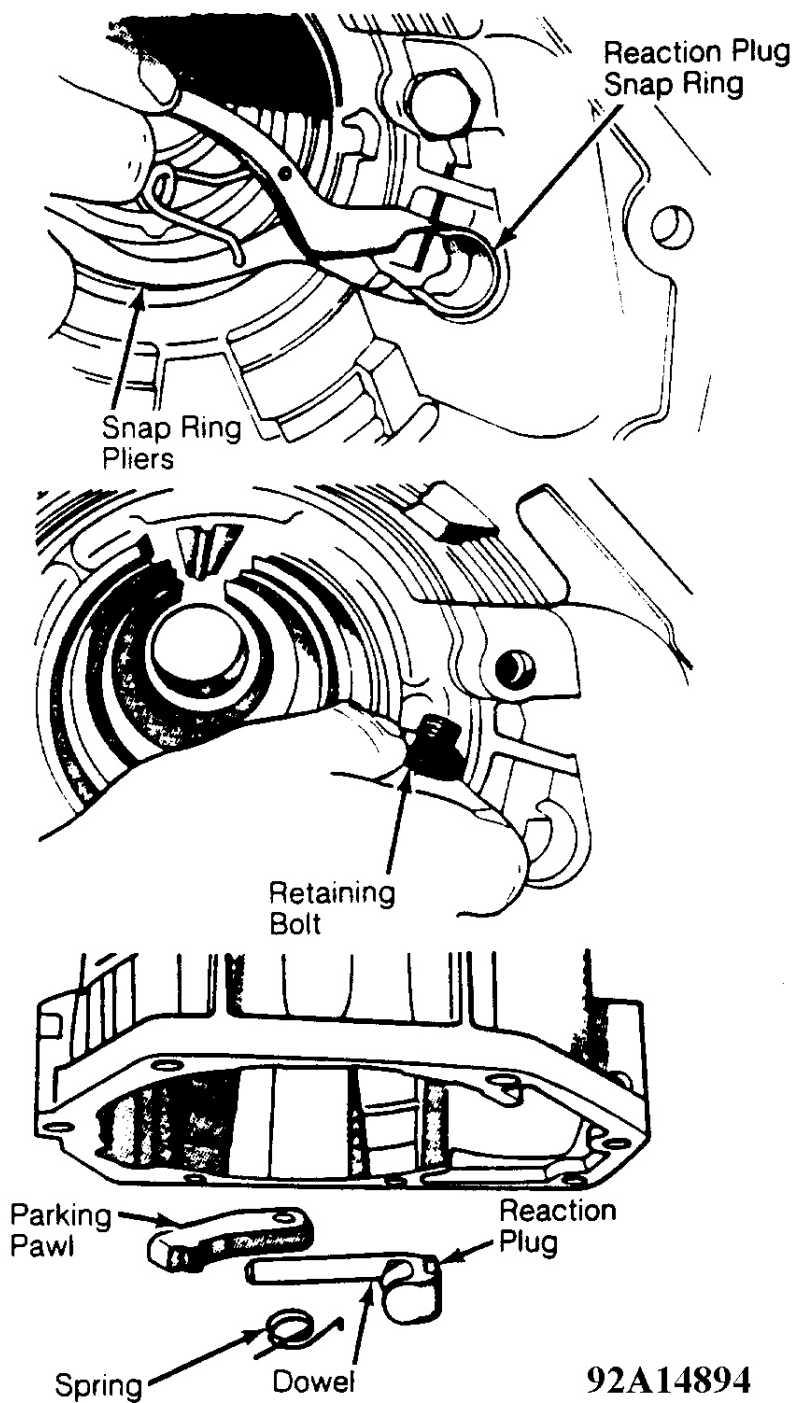

Fig. 19: Disassembling Parking Mechanism
5. Tap OD case downward on bench to remove rear bearing. To remove parking mechanism, first remove reaction plug snap ring. Compress snap ring just enough to allow removal. See **Fig. 19** .
6. Install large load-retaining snap ring and ensure proper seating. Install safety ring and slowly release press. Install governor and snap ring. Install dowel, parking pawl, and spring into OD case. Install retaining bolt and tighten to 20 ft. lbs. (27 N.m). Position reaction plug and install snap ring. See **Fig. 19** .